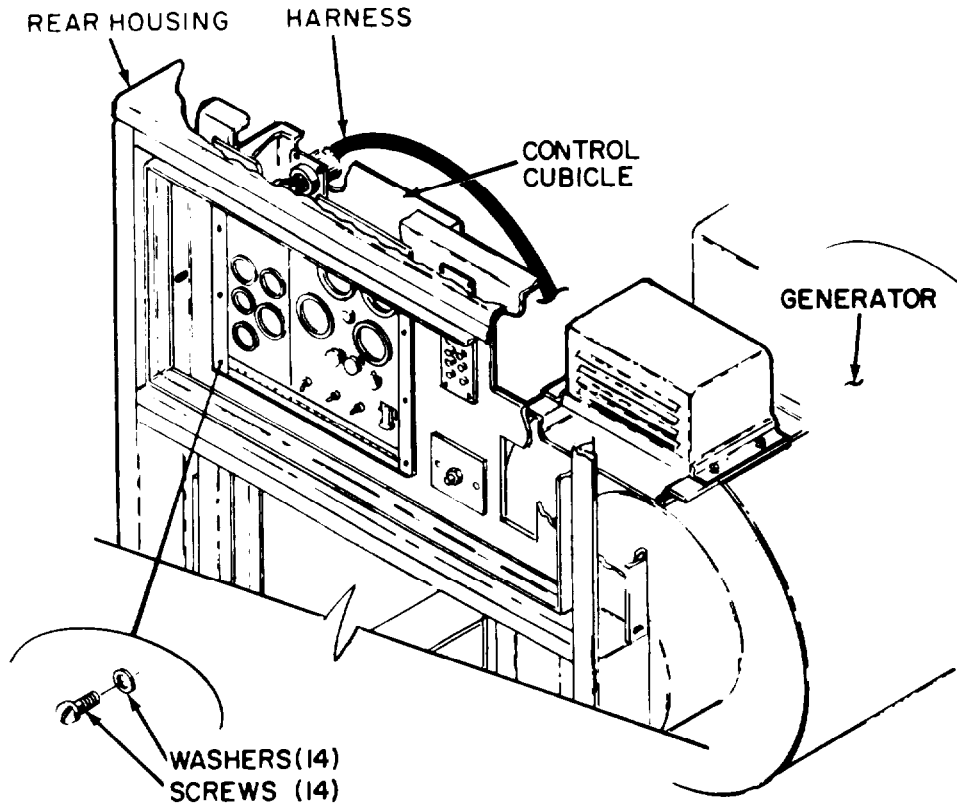

Figure 2-2. Control cubicle, removal and installation
b. Installation. Refer to figure 2-2 and install control cubicle as follows:
a. Removal. Refer to figure 2-2 and remove control cubicle as follows: